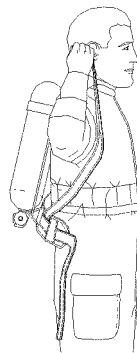

Figure 077-3-16. Positioning Backframe and Harness Assembly onto Back
- (3) Swing backframe and harness assembly over and onto back, sliding shoulder strap over arm as shown in Figure 077-3-16. Extend both arms through shoulder straps.